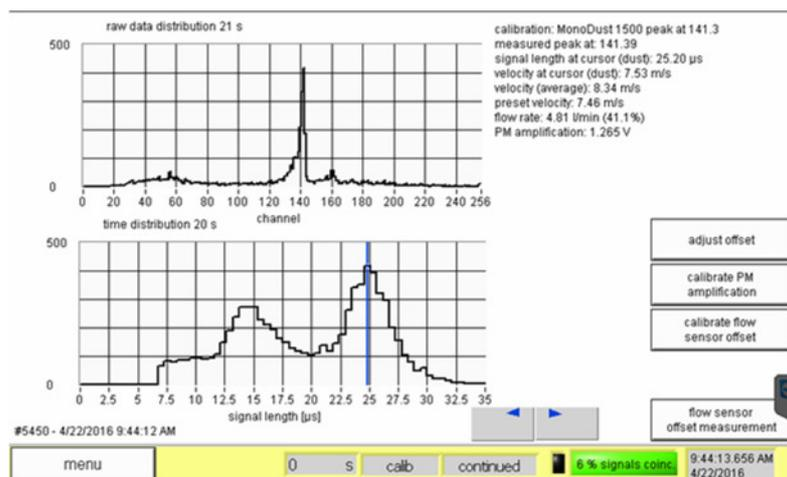

Figure 27: Screen display during the calibration
- 5.6.5 The target channel of the MonoDust 1500 test dust is known exactly through comparative measurements with the PSL standard, is indicated in the enclosed test certificate and on the bottle, and is also indicated on the top line in the calibration screen through firmware version 100448 (see Figure 27). As of firmware version 100449, the top line of the calibration screen no longer contains the specified target channel, but instead only the text “see bottle”.
If the MonoDust signal peak is detected in the **target channel ± 0.5** (in Figure 27 141.3 ± 0.5), no further measures are required.
- 5.7.1 Follow the instructions in sections 5.6.1 through 5.6.4 and Figure 27 of this manual. Please consult the signal length distribution graph (Figure 27 lower graph) while the APDA-372 aerosol is analyzed using MonoDust particles. The two modes for the velocity distribution should be clearly distinguishable, and the peak value of the second mode (graph, right maximum) should be stable and unambiguously readable.